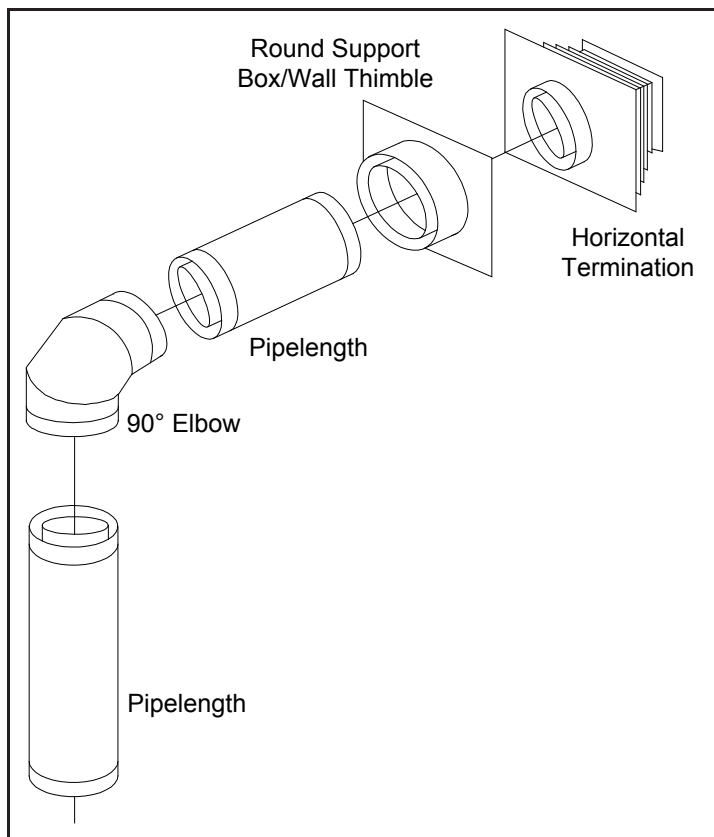

Figure 14: Common Horizontal Installation.
There are two (2) basic types of Direct Vent System installations; they are shown in Figure 14 and 15.